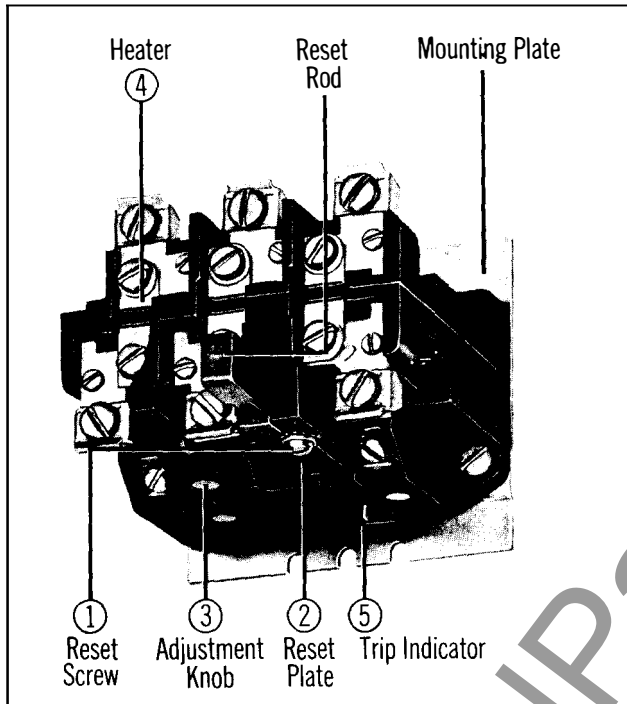

Fig. 1 - Size 1, 3 Pole Overload Relay for Panel Mounting
The Westinghouse Type A, 3 Pole Overload Relay, Figure 1, must be installed in a vertical position with the adjustment knob (3) at the bottom. The relay is accurately calibrated at the factory and should not be tampered with. Installation should be made with the proper wire size for the application and all wires should be securely fastened to the relay.
The overload relay is normally furnished set for "HAND" reset operation. The relay may be set for either "HAND" or "AUTO" reset by slightly loosening the screw (1) holding the reset plate (2), moving the plate to the proper position marked on the molded case and retightening the screw. (See Figure 1). Automatic reset should not be used with 2-wire master switch or where automatic resetting of the overload relay would restore power to the motor endangering either personnel or equipment.
An immediate visible indication of trip is standard on the Type A overload relay. When an overload occurs, which causes the relay to operate, a trip indicator (5) projects out through a small opening at the bottom of the relay. (See Figure 1).
Each heater is identified by a code marking stamped on one terminal. When installing heaters, be sure that connecting surfaces are clean and heaters are attached securely in the proper location with the screws provided. (See Figure 1). Heaters are not included with the relays